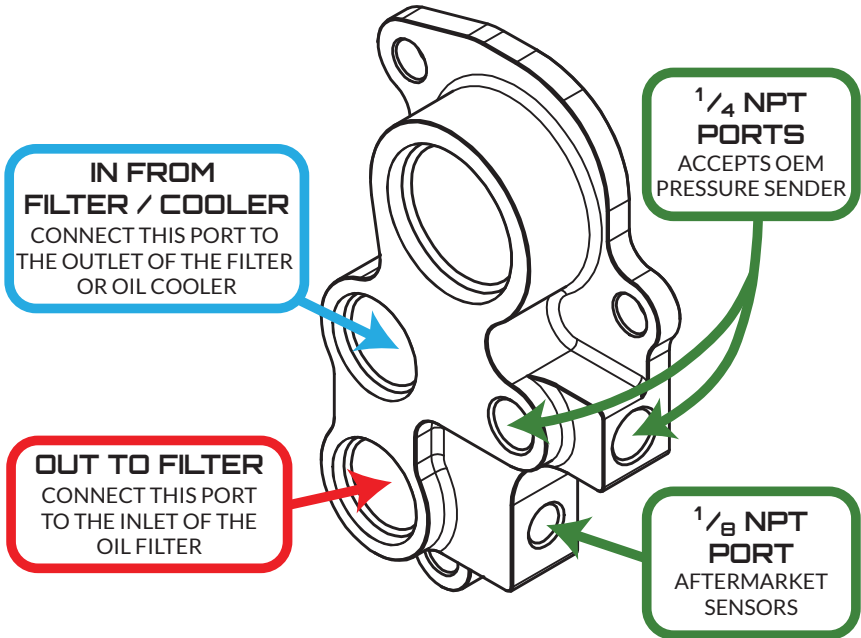
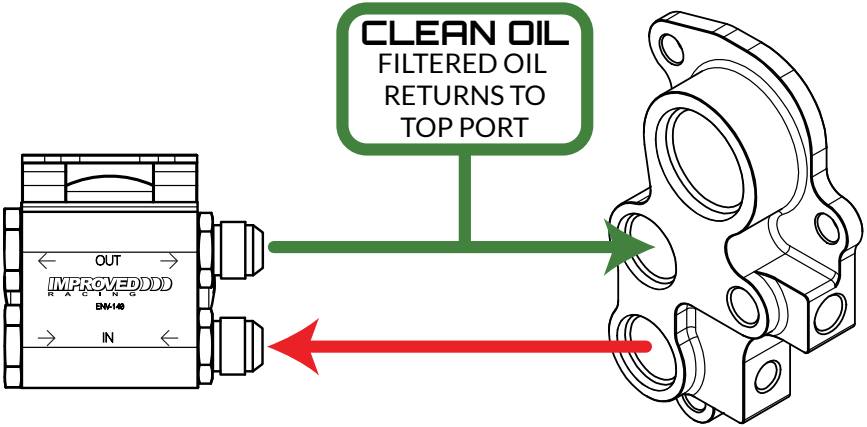
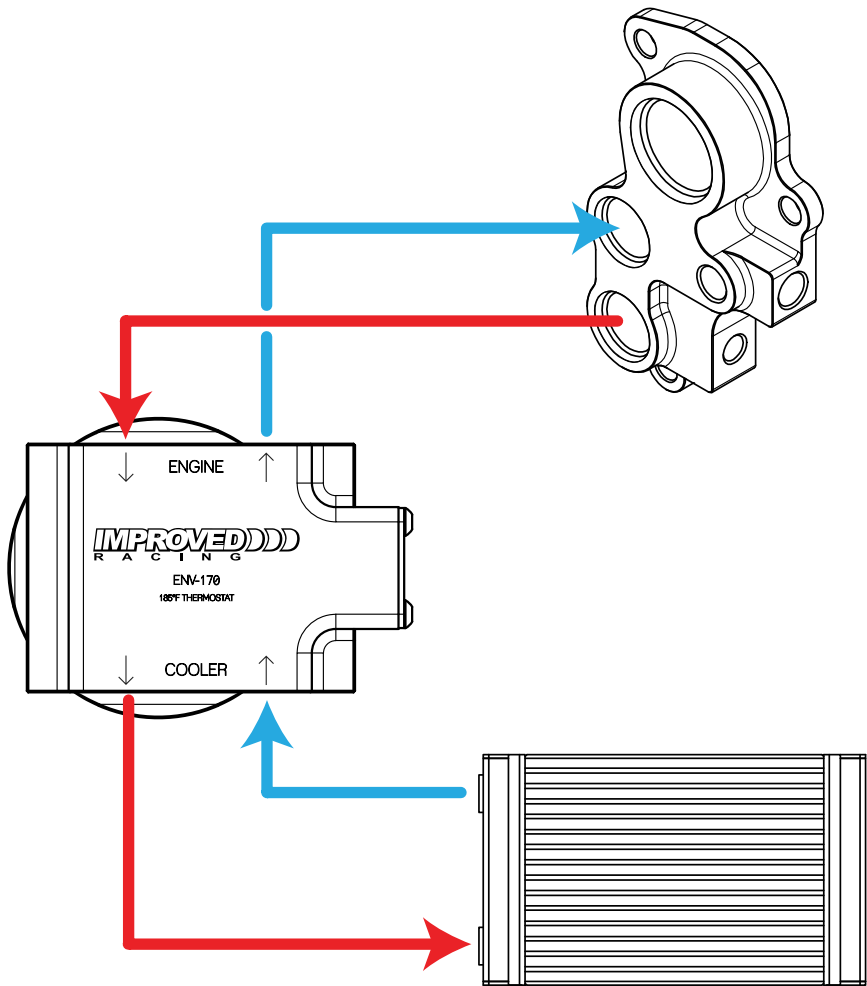

Figure 2 - Port Descriptions
Figure 3 - Remote Oil Filter Only (No Oil Cooler)
Figure 5 - Thermostatic Remote Oil Filter with Oil Cooler
- EFR-100 has two $\frac{1}{4}$ "-18 NPT sensor ports for the factory oil pressure sensor and one for an aftermarket sensor or feed line (See Figure 2).
- EFR-100 has one $\frac{1}{8}$ "-27 NPT sensor port for an aftermarket sensor (See Figure 2).
Note the port identification and directions of flow illustrated in Figure 2 below.
- Some example flow configurations using Improved Racing remote filter mounts are presented in Figure 3 through Figure 5.
1. Clean the threads on the factory pressure sensor. Wrap the threads three to four times with Teflon tape or apply Teflon thread sealant and install into one of the $1/4$ " NPT ports shown in Figure 2.
-  Refer to Figure 2 through Figure 5 for plumbing help.